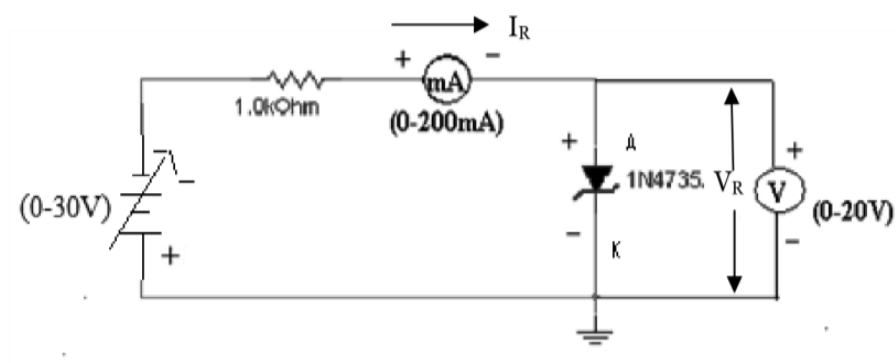

Figure 3: Zener diode in reverse bias
8. Connect the circuit as shown in figure3.